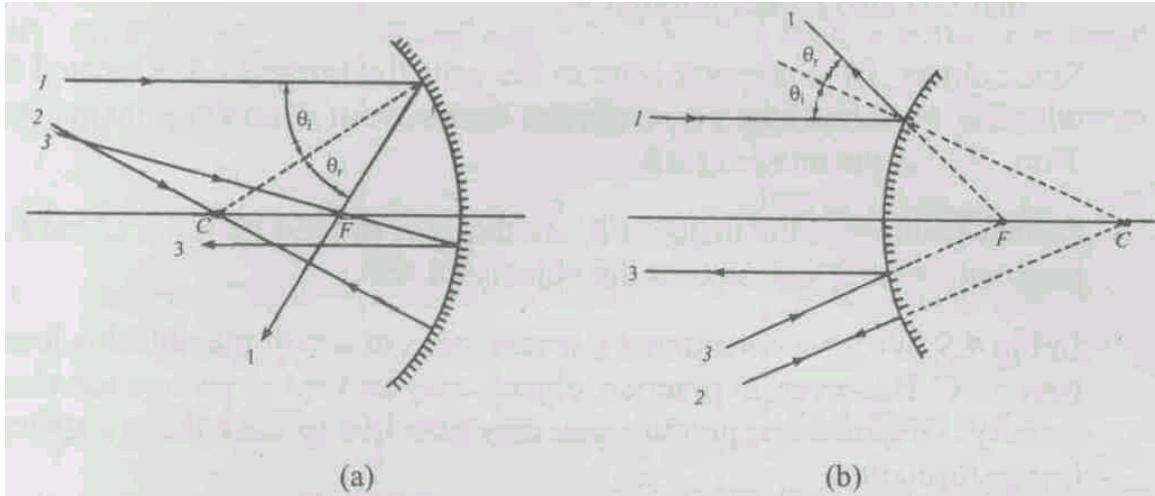

Fig. 4.8: Reflection of light by (a) a concave mirror; and (b) a convex mirror
- it is sufficient to consider only two of the three rays shown in Fig.4.8 to locate the image of the object;